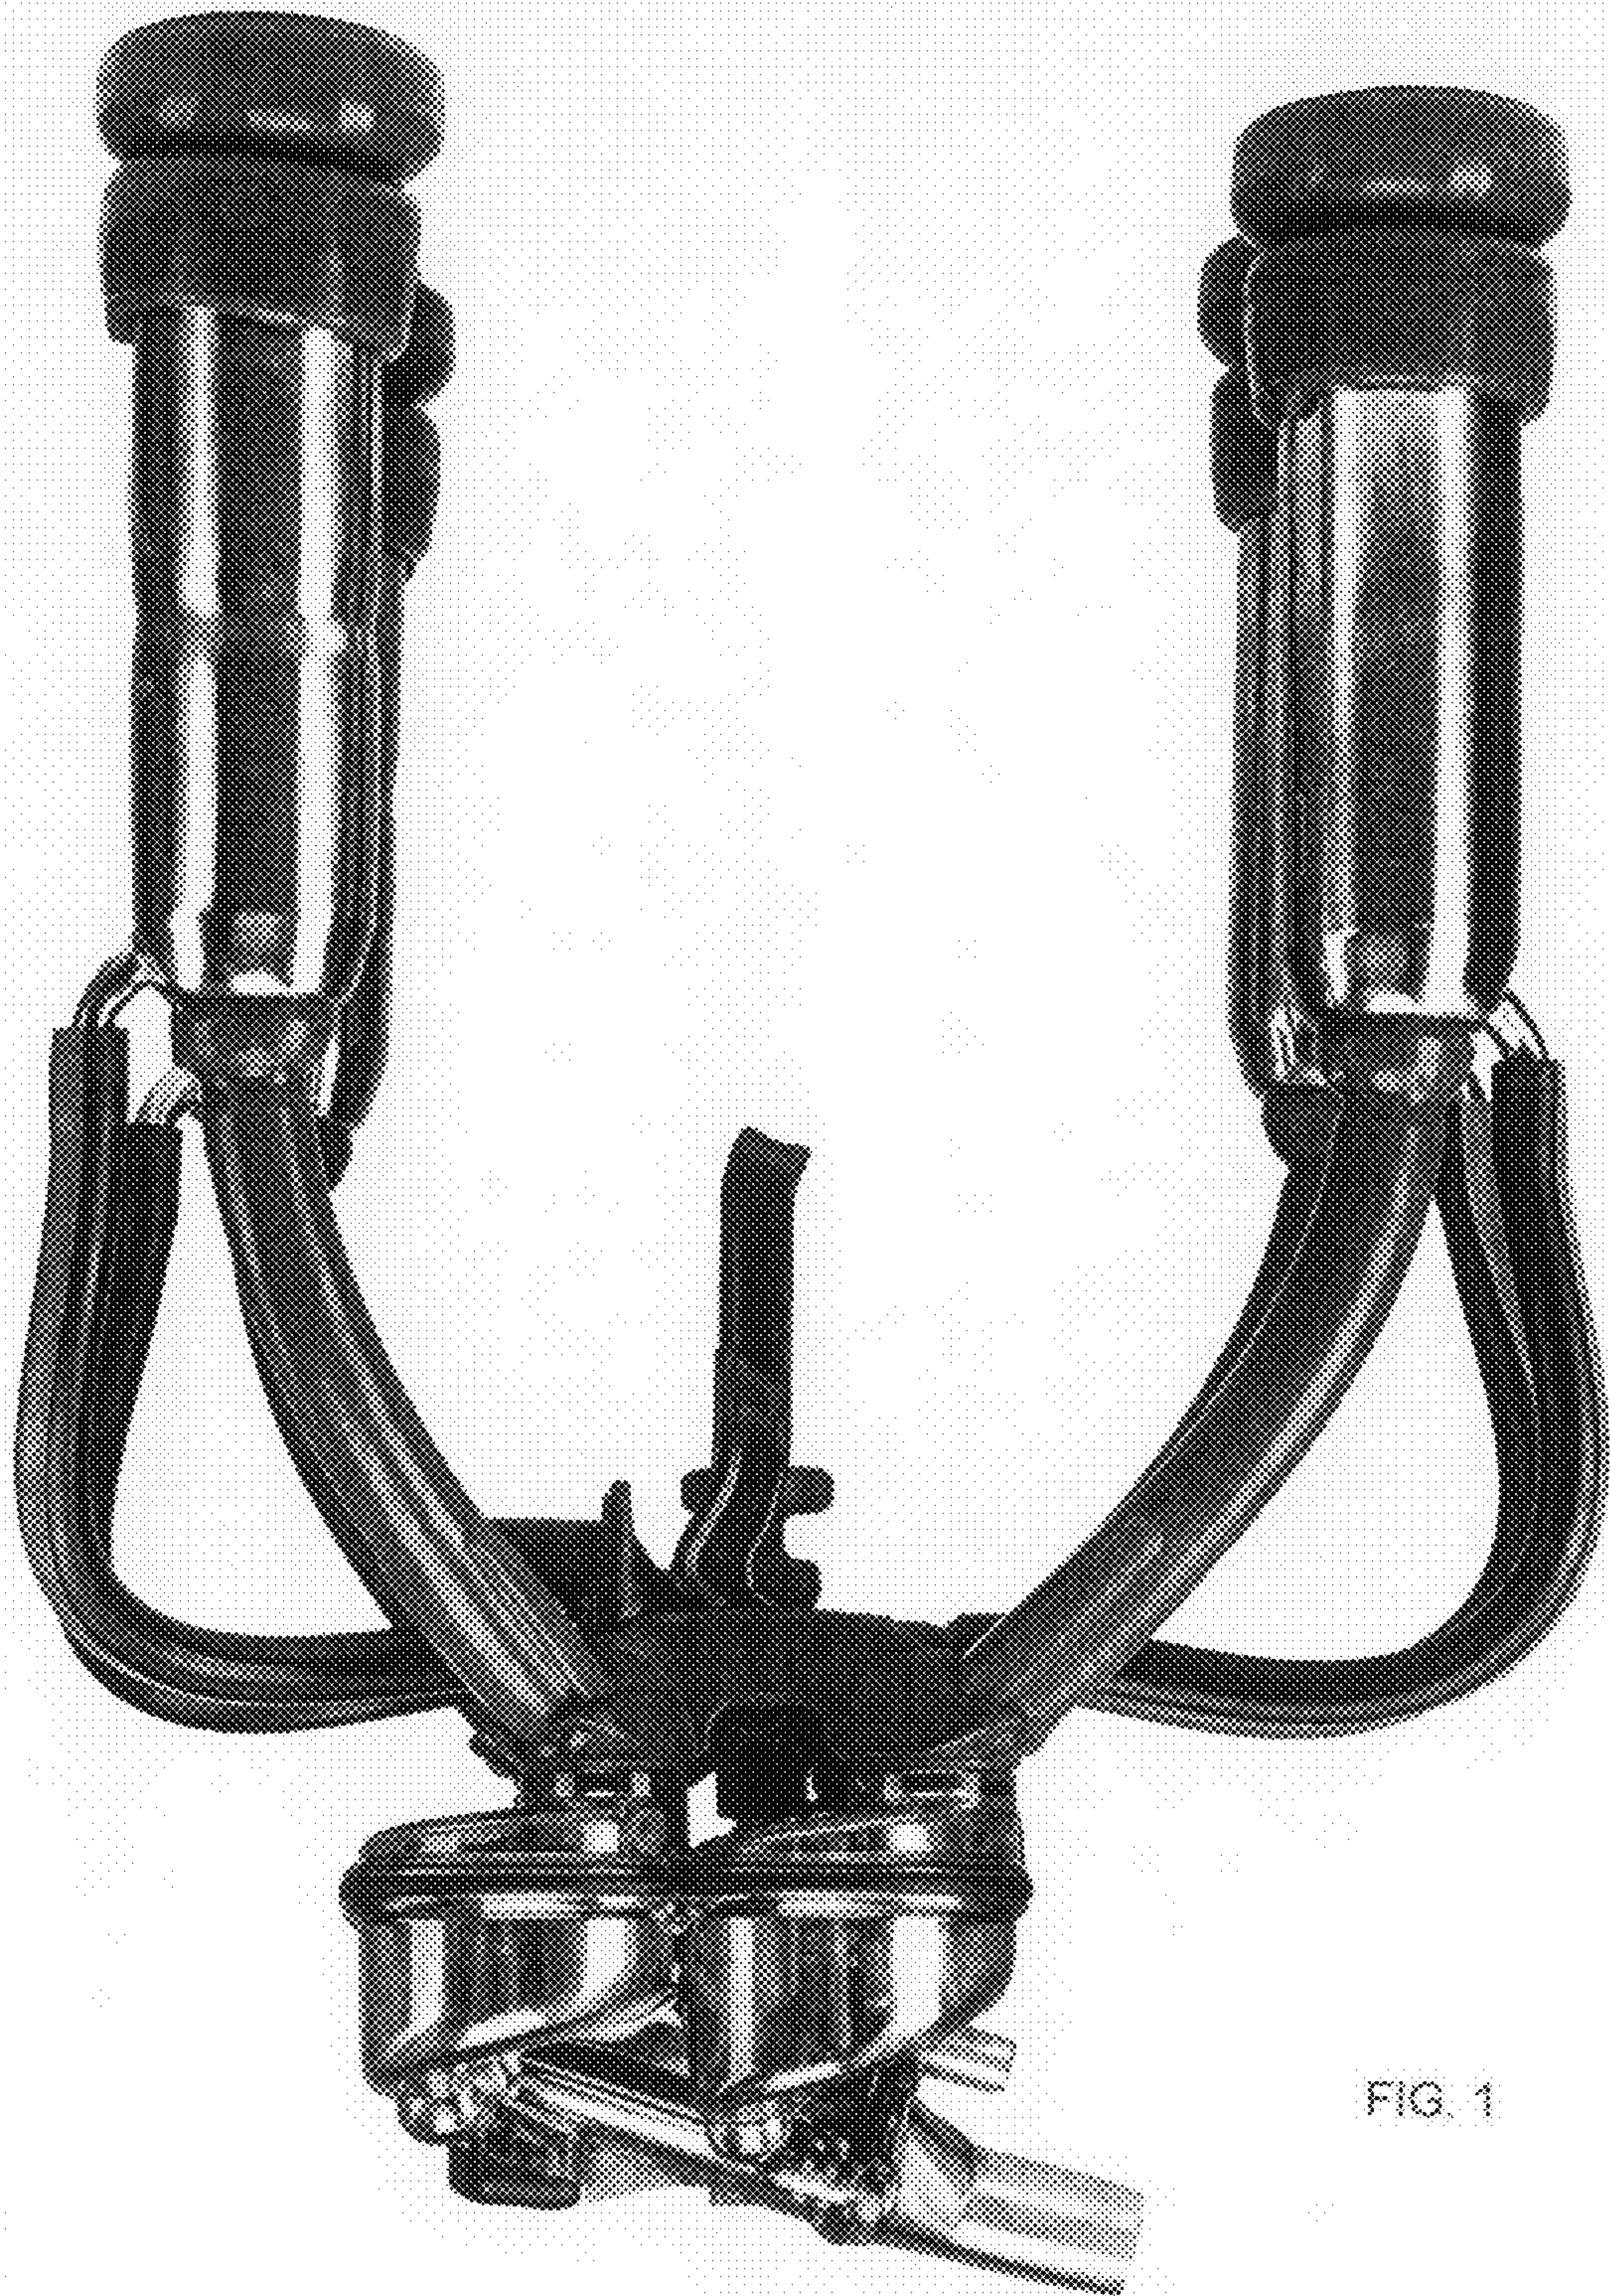

FIG. 1
- FIG. 1 is a side elevational view of a milking machine having a design of the invention;